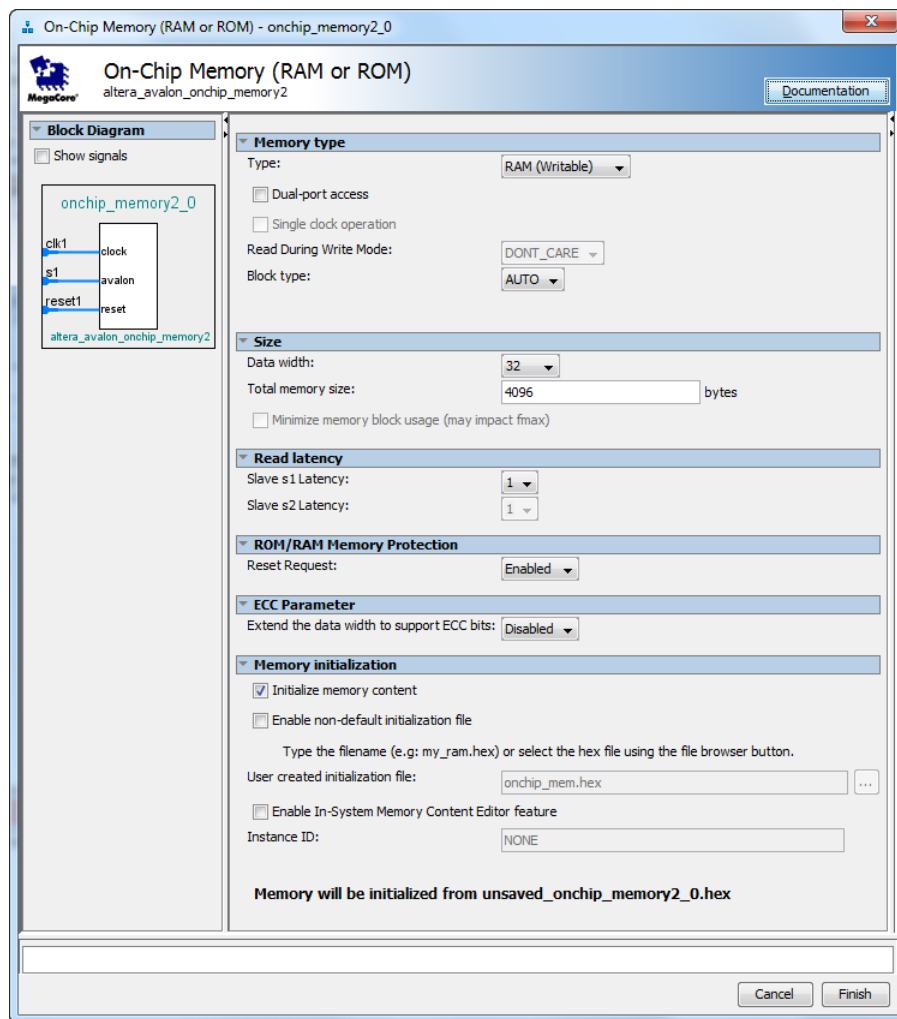

Figure 7. Define the on-chip memory.
- In the On-Chip Memory Configuration Wizard window, shown in Figure 7, ensure that the Data width is set to 32 bits and the Total memory size to 4K bytes (4096 bytes)